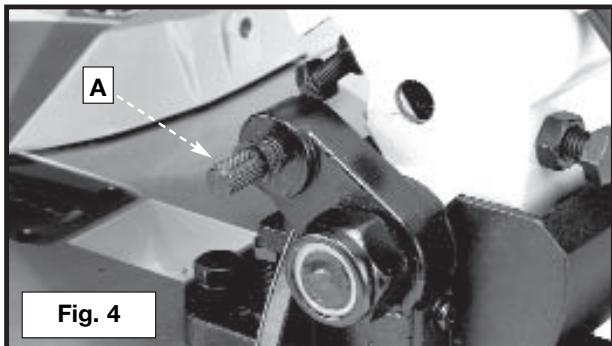

Fig. 4
1. Push down on the cuttinghead and pull out the cuttinghead lock knob (A) Fig. 4.